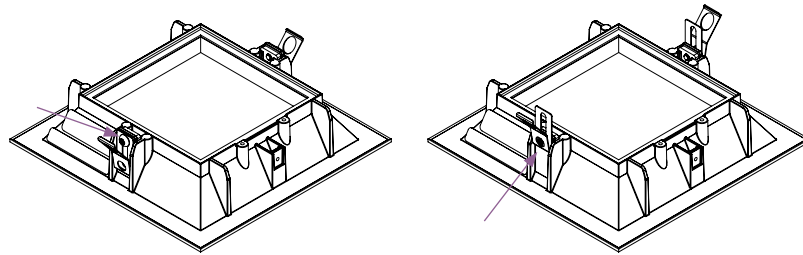

fig. 12
- Re-tighten the screw (see fig. 12).